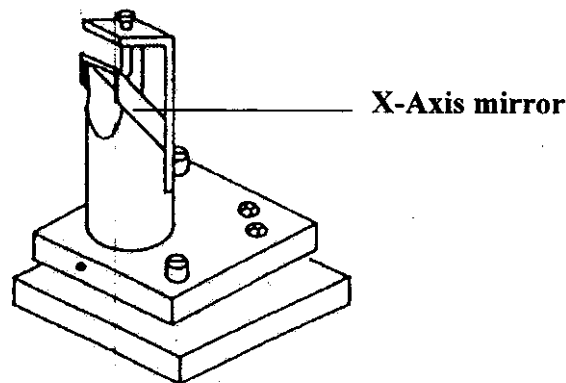

Fig. 13
4. Clean the Upper Reflection Mirror and the X-Axis Mirror (Please refer to Fig. 2 and Fig. 13) same as the above process separately.